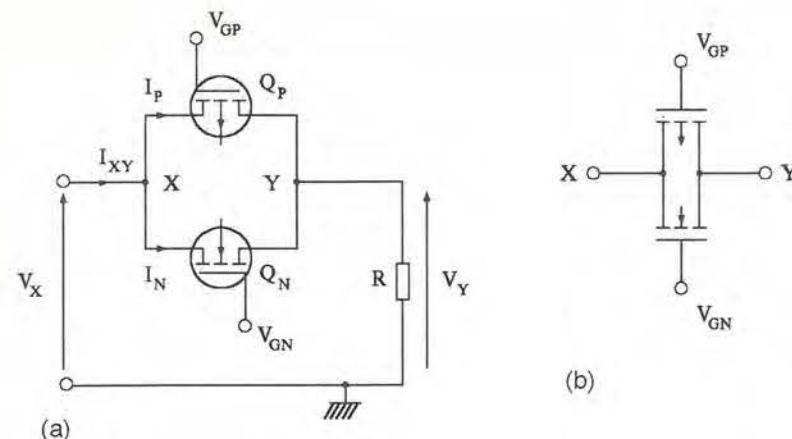

Fig. 13.
a) On characteristic for Fig. 13(a) for R infinite, showing conduction states.
The theoretical characteristic for a finite value of R has the general shape shown in Fig. 14b). Referring to Fig. 13, it can be shown that for, $+(V_{GG}-V_{TH}) \geq V_X \geq -(V_{GG}-V_{TH})$,
Whether the composite arrangement of Fig. 13 is implemented in practice using discrete devices or, as is usually the case, using a monolithic CMOS structure, there are at least two reasons why the transfer characteristic is non-linear over the whole range of V_X.